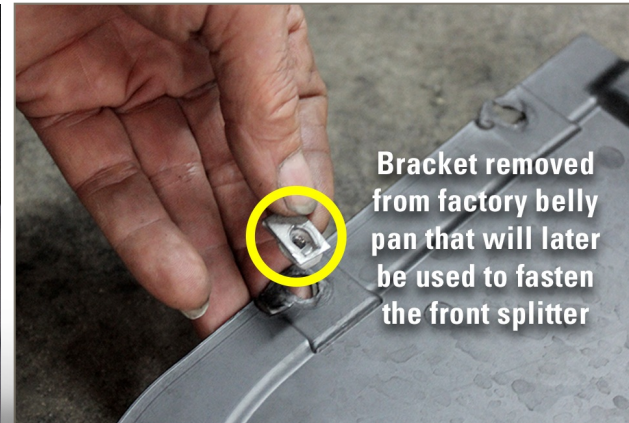

Figure 4
3. Keep these extra bolts and push pins from the belly pan so that they can be used to install the front splitter. (Figure 4)
1. Grab a bracket, bolt, and nut that was previously used to secure the belly pan to now fasten the splitter to the valance through the hole you've just drilled. *(Figure 4)*